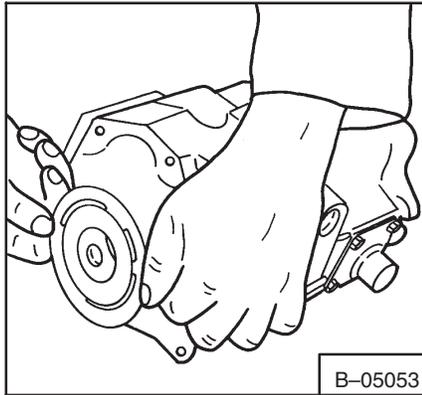

Fig. 3-101 Removing Wafer Plate
9. Remove the wafer plate (Fig. 3-101).